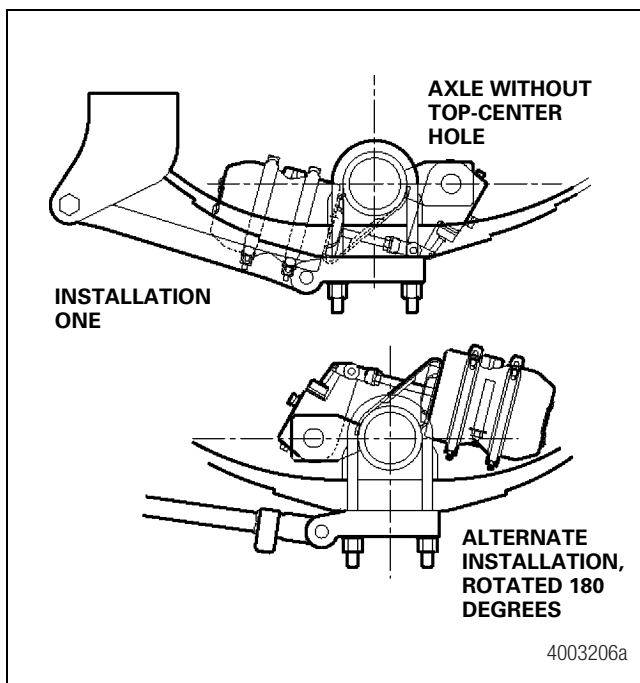

Figure 6.3
2. On axles built without a top-center hole, the axle can be rotated 180 degrees. Therefore, the axle top and bottom are interchangeable. Figure 6.3.
2. On axles built without a top-center hole, the axle can be rotated 180 degrees. Therefore, the axle front and rear are interchangeable. Figure 6.3. For these models, use the brake installation guidelines in this section.